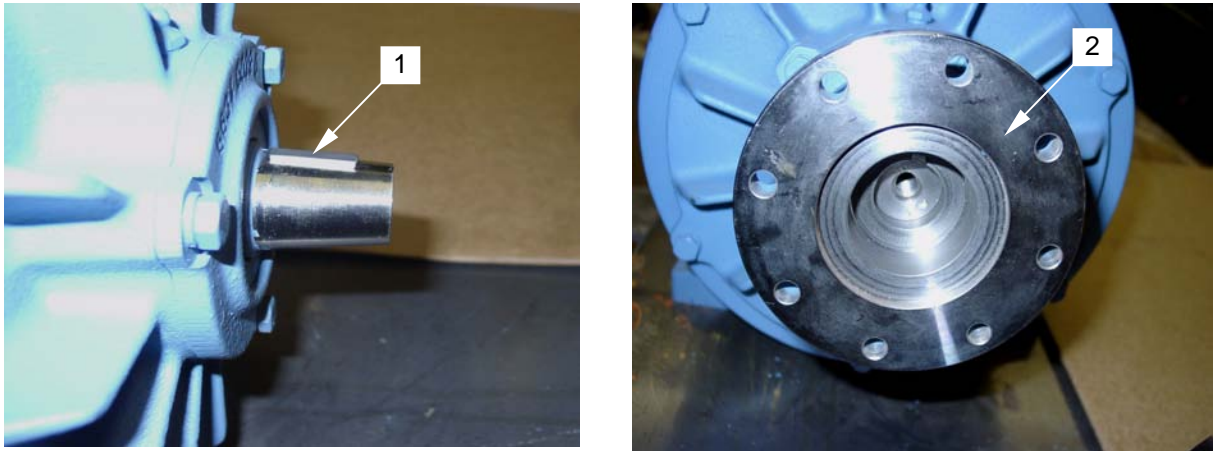

Figure 7. Installing Tapered Shaft Coupler
9. Place retained or new key (**figure 7, item 1**) in place on tapered pump shaft of new pump.
10. Install tapered shaft coupler (**figure 7, item 2**) onto pump shaft.